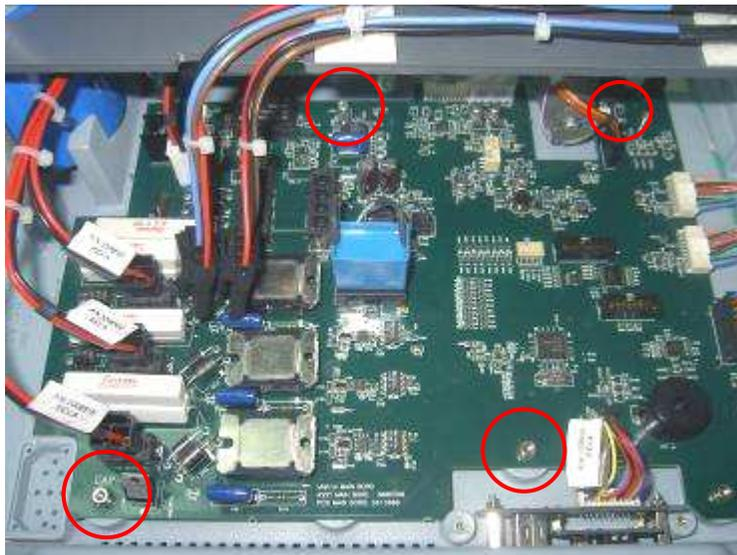

Figure 17: Main Board
5. Remove the allen screws securing the MB to the chassis (Figure 17).